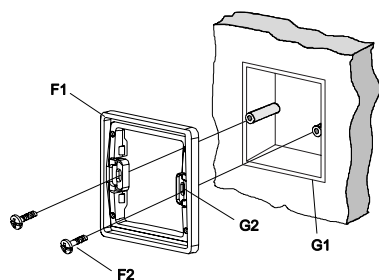

Figure 4: Mounting of the frame
- Mount the mounting frame (F1) onto conduit box (G1) via mounting slots with mounting screws (F2) (see figure 4).